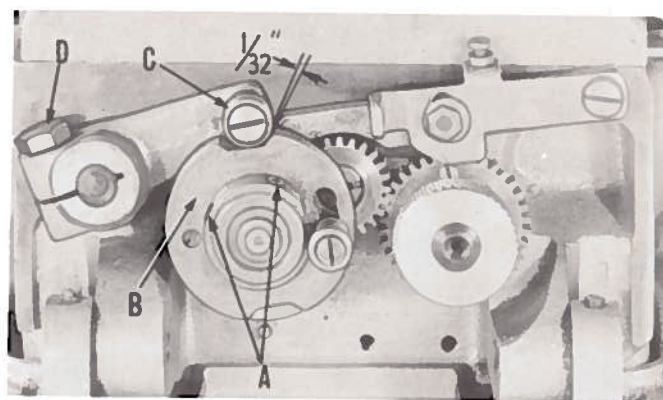

Fig. 2
With the machine in stop position, loosen the two socket head set screws (A, Fig. 2) in stop motion cam (B) and rotate cam to secure $\frac{1}{32}$ inch clearance between roller (C) and front of slot in cam.
This adjustment is made by loosening clamp screw (D, Fig. 2) in stop motion trip lever and moving lever up or down to secure the $\frac{3}{32}$ inch clearance. Should it be necessary to move lever down, depress the treadle while making adjustment.